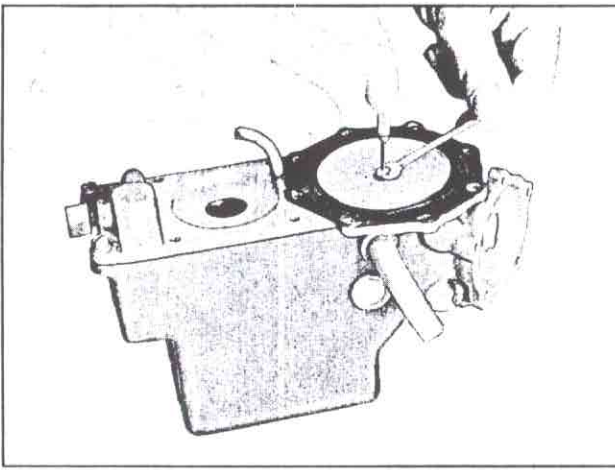

Fig. 136—Unfastening Main Control Diaphragm
11. Using a small screwdriver and a 7/32" wrench, remove the nut securing the main control diaphragm to the link (fig. 136). It is imperative that the link be held fast while removing the nut to prevent damage to the fuel control linkage. Remove the main control diaphragm.